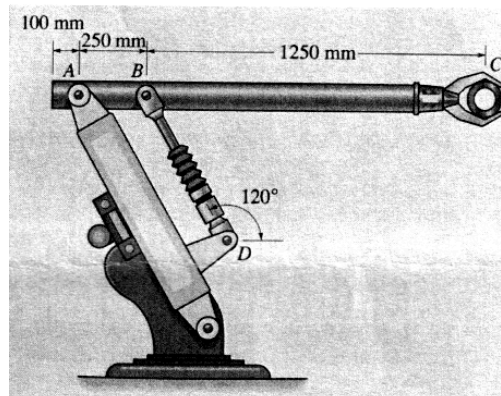

Figure 7
- (b) The industrial robot is held in the stationary position as shown in Figure 7. Draw the shear and moment diagrams of the arm ABC if it is pin connected at A and connected to a hydraulic cylinder BD. Assume the arm and grip have a uniform weight of 0.3 N/mm and support the load of 200 N at C. (15)